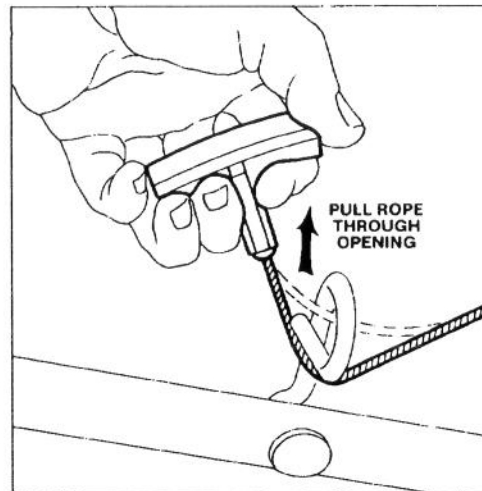

Figure 3
3. **STARTER ROPE** (Fig. 3) — Pull starter rope through opening in rope guide. By squeezing control bar (Fig. 6) against handle, blade brake will release and allow rope to be pulled easily up to rope guide.